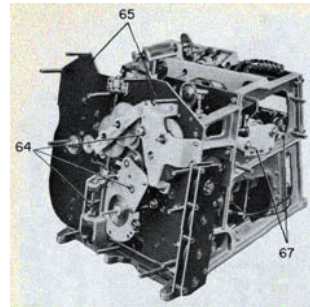

Figure 117-Steps in Disassembly of Computer.
64. Remove and inspect traveling nut and two intermittent gear limit stops. See figure 117.
65. Remove the front plate assembly. This operation exposes the differential gear box. See figure 117.
67. To remove the angle solvers in the computer, start with the removal of the sight angle zero-reader dial bracket. See figures 117 and 118.